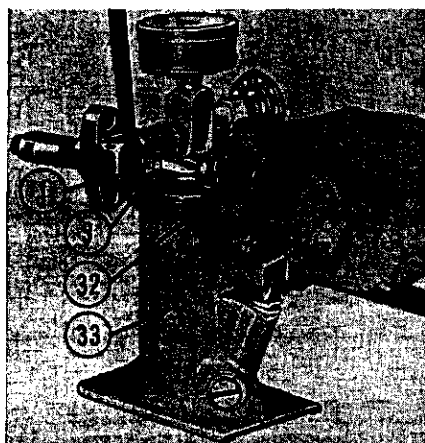

Fig. 51—Typical tester used to check and adjust injector nozzles.
94. NOZZLE TESTER. A complete job of testing and adjusting the nozzle requires the use of a special tester such as that shown in Fig. 51. The nozzle should be tested for opening pressure, seat leakage, back leakage and spray pattern.